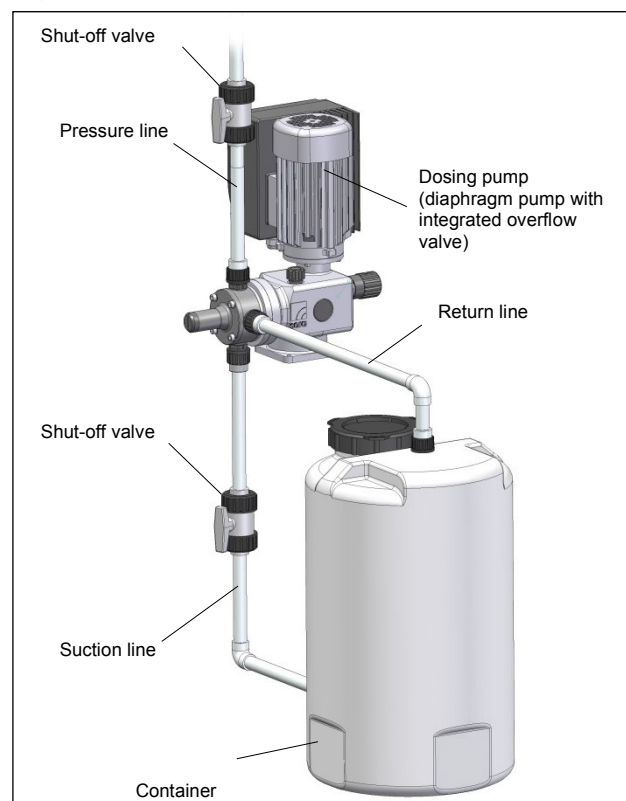

Fig. 24 System with integrated overflow valve
- use sera diaphragm pump with integrated overflow valve (Fig. 24).